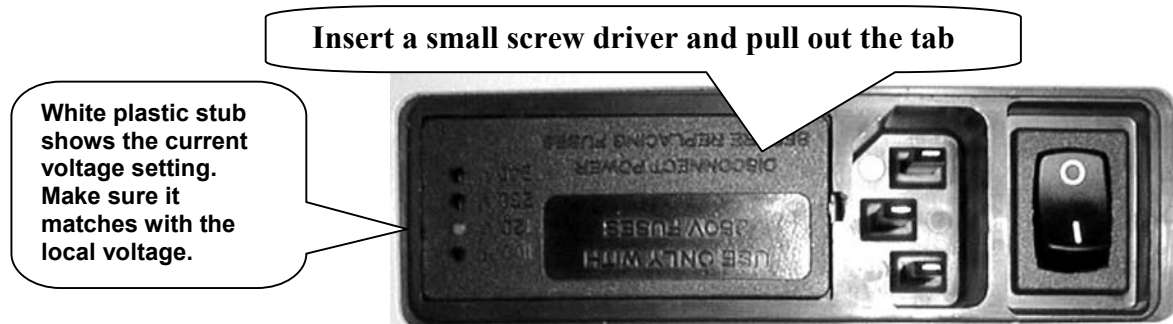

Figure 3.8
2. A small white tab on the AC inlet located on the rear panel indicates the voltage setting on your camera controller unit. See Figure 3.8
3. Pull out the small tab near the AC inlet using a small screwdriver. See Figure 3.8